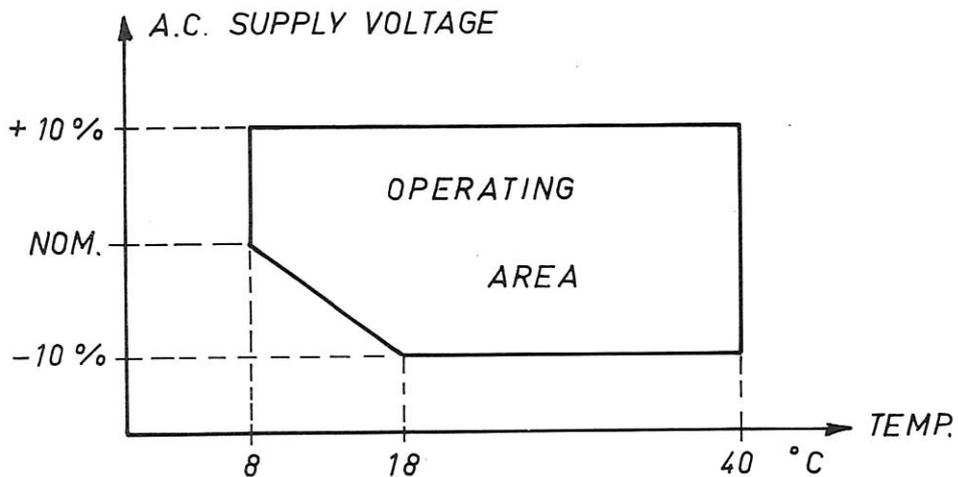

Fig. 2.1 Operating Voltage and Temperature
* The lower limits for operating temperature and a. c. supply voltage must not occur simultaneously, see Fig. 2.1.